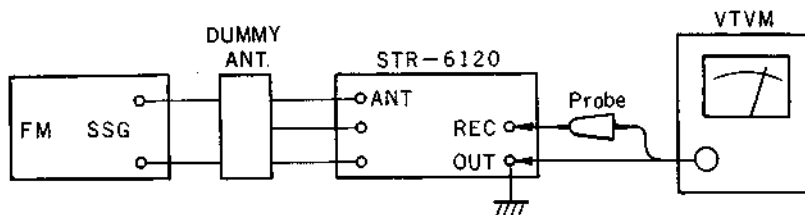

Fig. 3-1-2 Front End Alignment Test Set-up
- (1) Remove the chassis cover.
- (2) Connect the equipment as shown in Fig. 3-1-2.